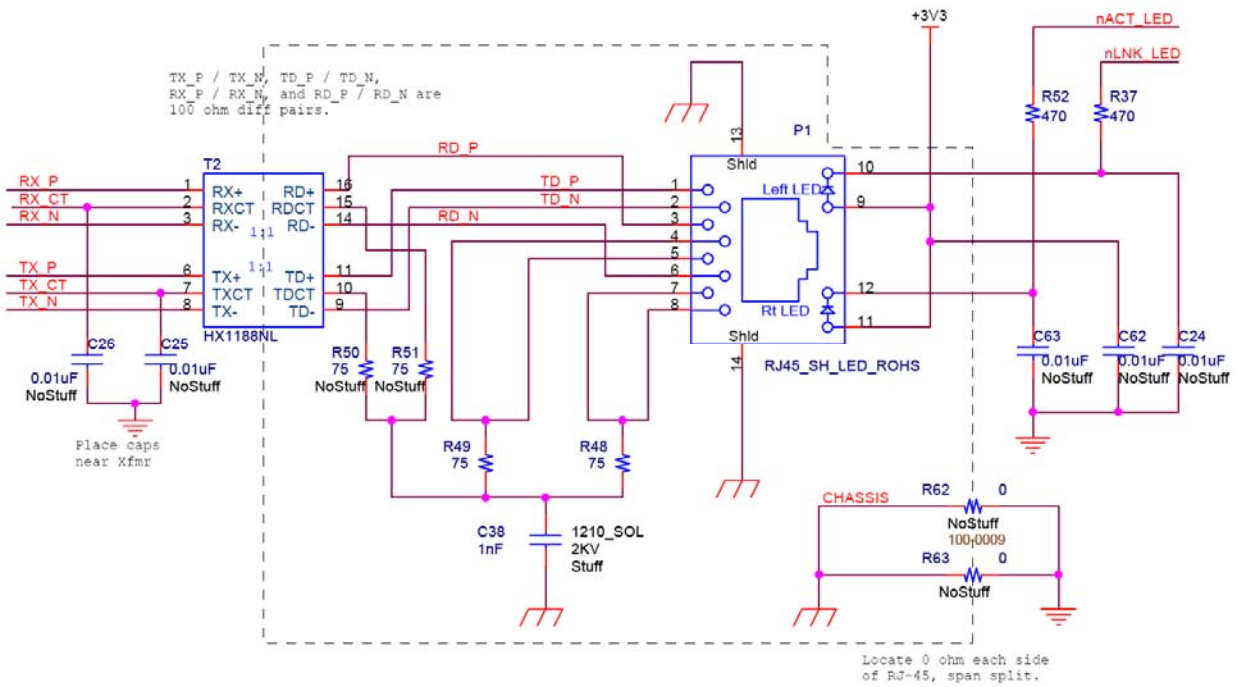

Figure 1 10 / 100Base-T Ethernet Application Circuit
- Figure 1 10/100Base-T Ethernet Application Circuit6
The six 10/100Base-T signals should be connected directly to the transformer, as shown in Figure 1. The transformer should be a Pulse Engr. HX1188NL or equivalent. All 10/100Base-T wiring between the LTP5903PC and the RJ-45 connector should be short and direct. Each differential signal pair should be the same length and the lines should be coupled tightly together.